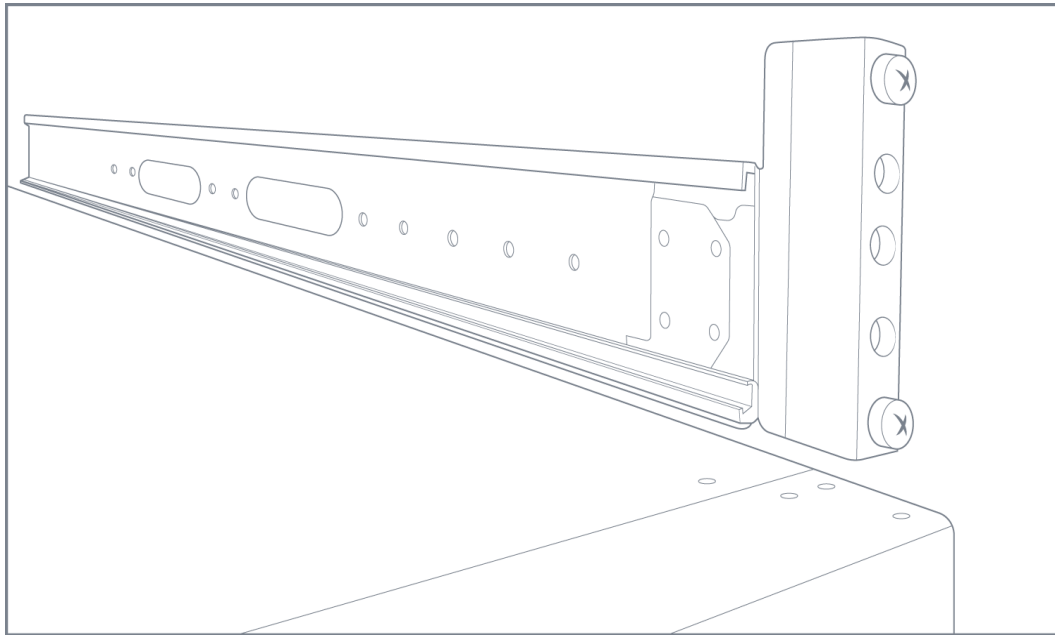

Figure 3-2: Slide Rail Installed in Four Post Rack
5. Locate an open 3RU rack space and install the left and right rails of the mounting slide in the rack. The assembly for a four-post rack differs from the assembly for a two-post rack. Refer to Figure 3-2 on page 52.